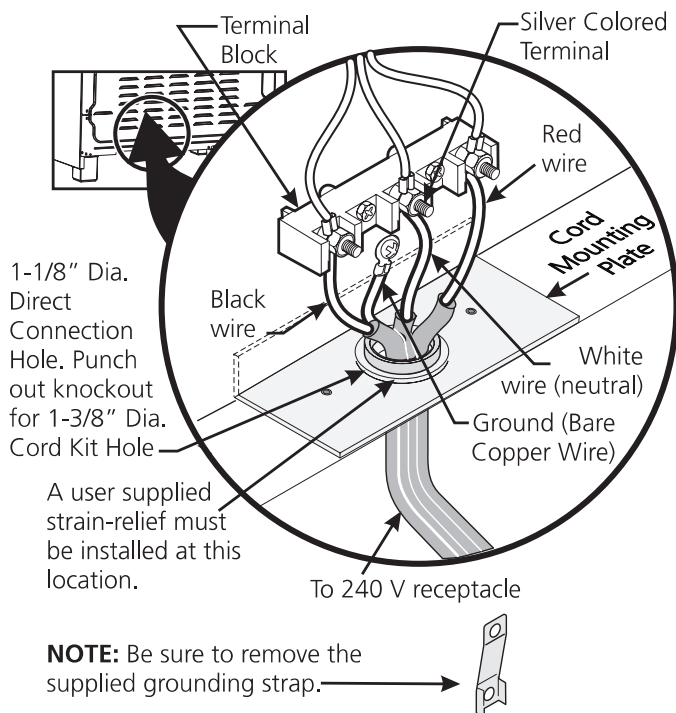

Figure 10
\* For mobile homes, new installations, recreational vehicles, or areas where local codes do not permit grounding through neutral, a 4 conductor power supply cord kit rated at 125/250 volts and marked for use with ranges should be used (see Figure 10).
4. Connect the ground wire (green) of the power supply cord to the frame of the appliance with the ground screw, using the hole in the frame where the ground strap was removed (see Figure 10).
6. Replace the 3 nuts on the terminal block (see Figure 10).
If the appliance is connected directly to the circuit breaker, fuse box or junction box, use flexible, armored or non-metallic sheathed copper cable (with grounding wire). Supply a U.L. listed strain-relief at each end of the cable. At the appliance end, the cable goes through the Direct Connection Hole (see Figure 10) on the Cord Mounting Plate. Wire sizes (**copper wire only**) and connections must conform to the rating of the appliance.